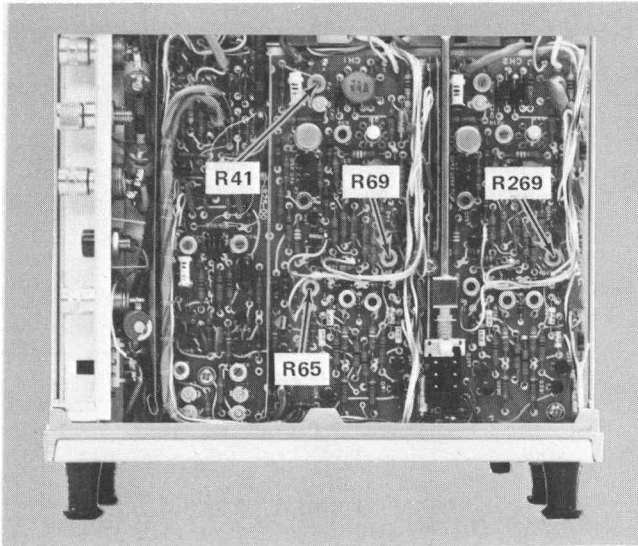

Fig. 5-13. Location of Limit Centering and Vertical Gain controls.
- e. ADJUST—R69, Limit Centering control, for least compression. Compression should not exceed 0.1 division. See Fig. 5-13 for location of R69 and R269.
- d. ADJUST—R65, X1 Vertical Gain adjustment, for 5.00 divisions of display. See Fig. 5-13 for location of Gain controls.